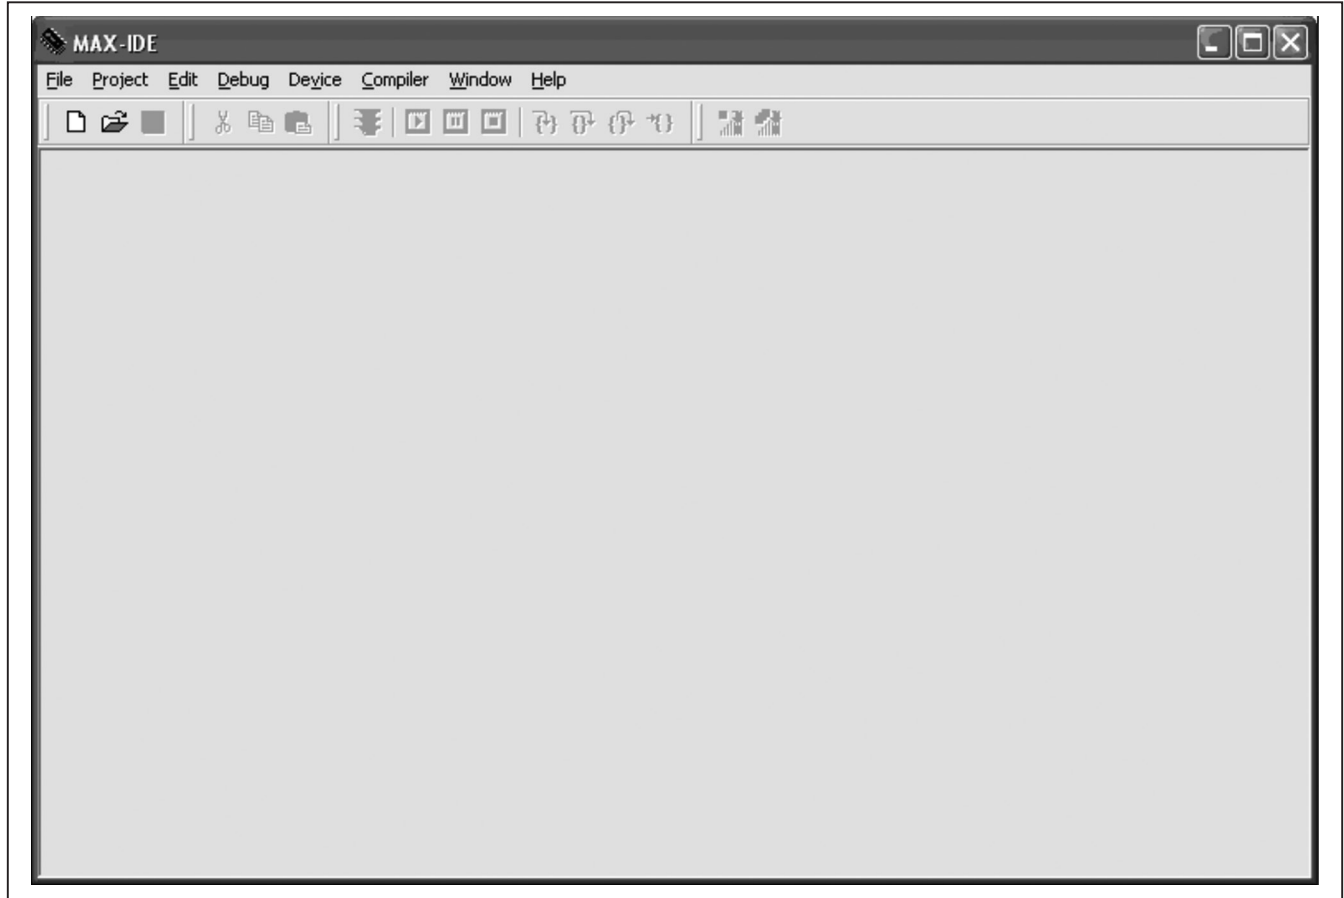

Figure 1. MAX-IDE Main Window
- 2) Launch MAX-IDE from the **Start | All Programs** menu or run **GenericIDE.exe** directly from the **C:\Program Files\MAX-IDE** directory (see Figure 1).